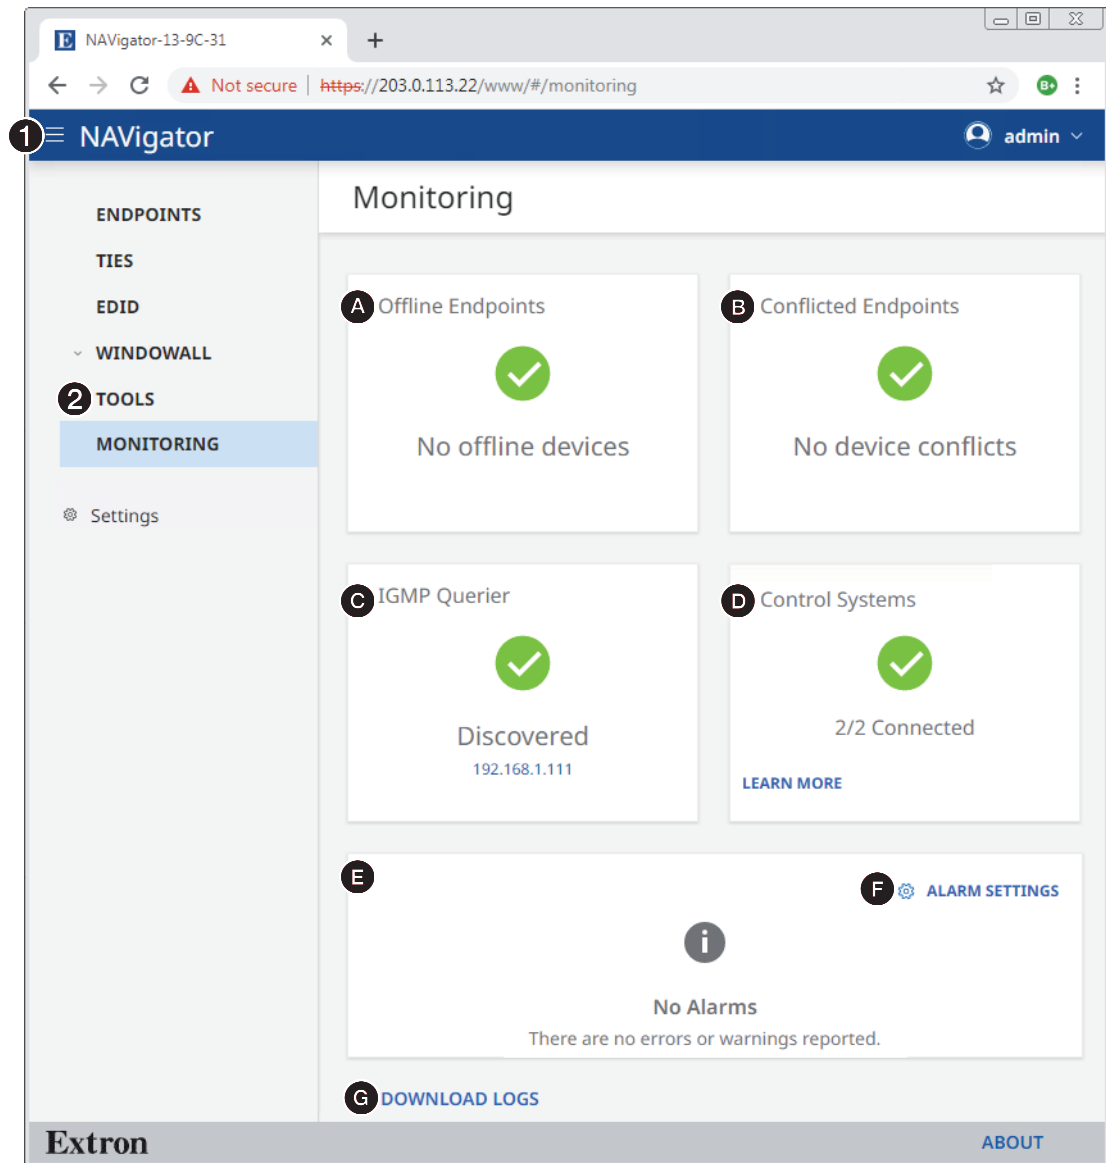
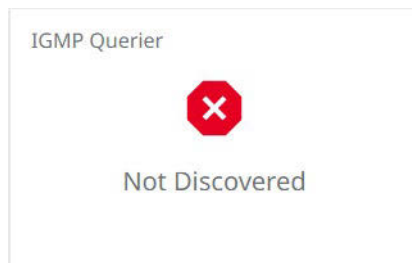

Figure 93. Monitoring Page
Figure 96. IGMP Querier Pane with no IGMP Querier Present on the Network
1. If necessary, click the **Menu** icon (see figure 93, ①).
The **Offline Endpoints** pane (see figure 93, **A** on page 87) shows the number, if any, of discovered endpoints that are not reporting their status.
The Conflicted Endpoints pane (see figure 93, E on page 87) shows the number, if any, of discovered endpoints that have an assignment conflict within the system.
The IGMP Querier pane (see figure 93, C on page 87) shows whether or not an IGMP querying device is present on the network, and the IP address of the IGMP querier. The address allows you to know that you are communicating to a querier and which querier. In the case of duplicate querier, the IP address may change. Figure 96 shows the indication if no IGMP querier is present on the network or if there are multiple IGMP queriers and there should only be one.
The Control Systems pane (see figure 93, C on page 87) shows the status of control systems that are paired and connected to the NAVigator. The leftmost shown number at right indicates the number paired. The rightmost number indicates the number connected.
The Alarms pane (see figure 93, D on page 87) shows any alarms that have been triggered in the NAV system managed by this NAVigator. Figure 99 shows the pane when alarms are present. Some alarms self-clear when specific conditions are met, others remain as long as the conditions that cause them remain. As an example, a temperature alarm remains until the NAVigator cools down.